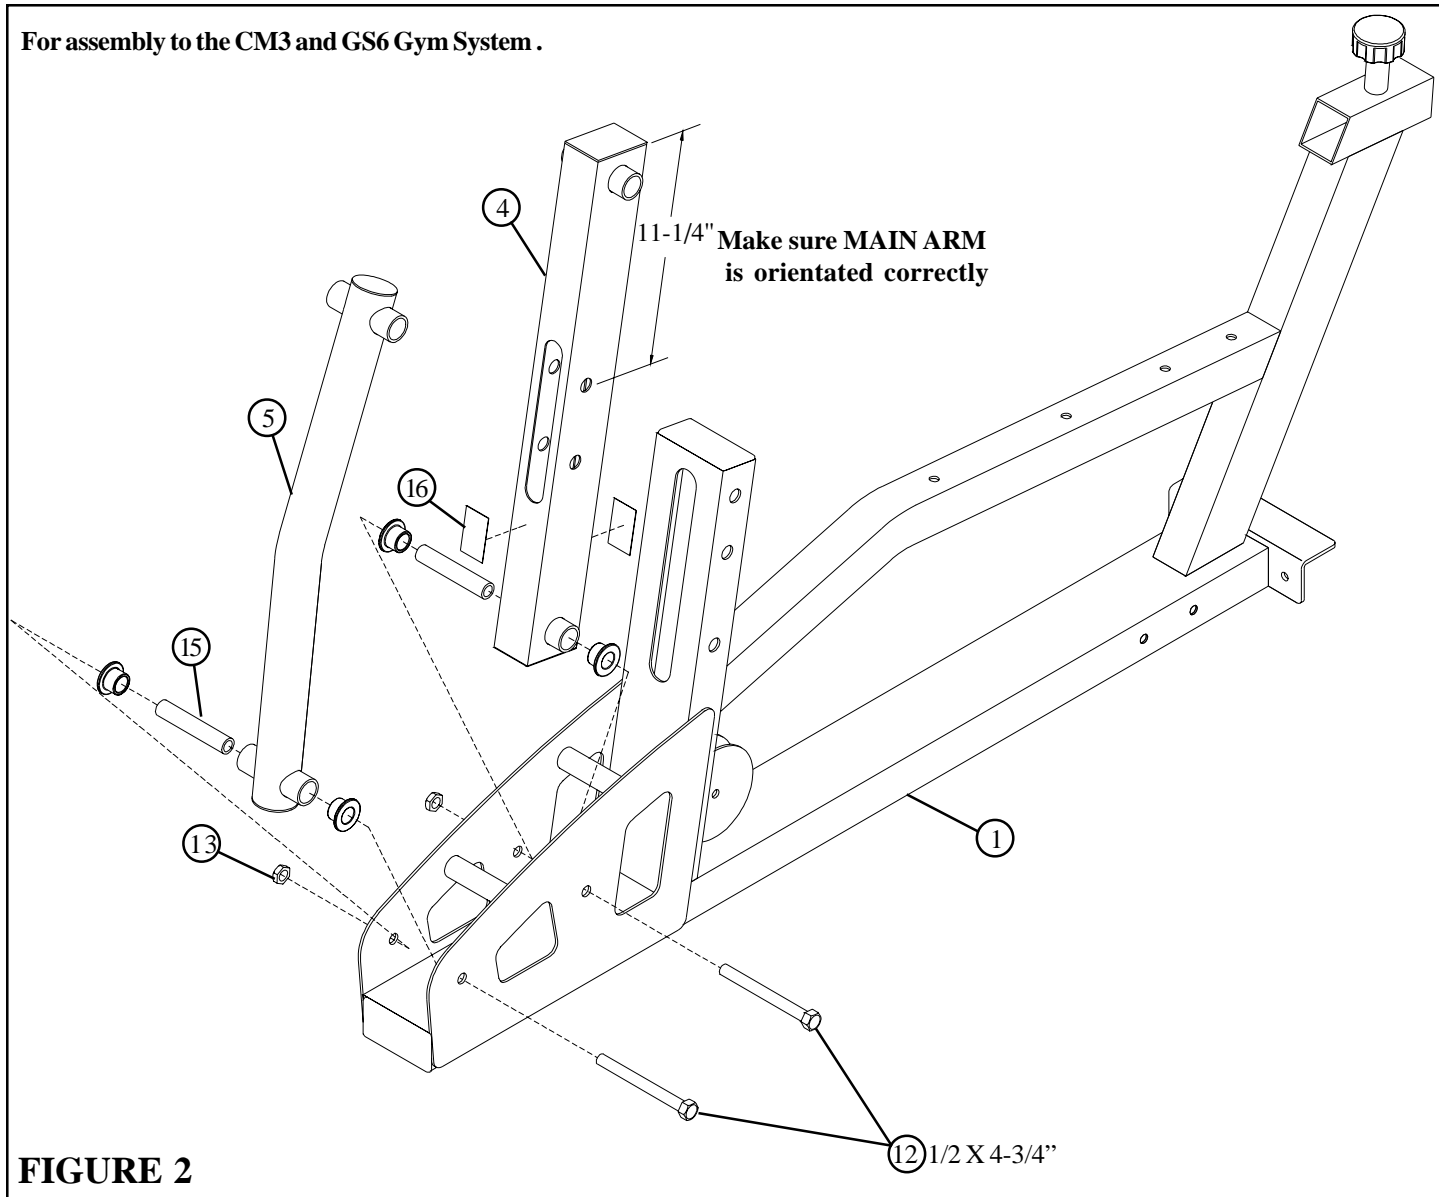

FIGURE 2
- **SECURELY** assemble the **SECOND ARM (5)** to the **FRAME (1)** using one **1/2 X 4-3/4" BOLT (12)**, one **3/4 X 4" SHAFT (15)** and one **1/2" LOCK NUT (13)**. See **FIGURE 2**.
- **SECURELY** assemble the **MAIN ARM (4)** to the **FRAME (1)** using one **1/2 X 4-3/4" BOLT (12)**, one **3/4 X 4" SHAFT (15)** and one **1/2" LOCK NUT (13)**. See **FIGURE 2**. (**NOTE: Make sure MAIN ARM is orientated correctly, top hole should be 11-1/4" from the top of arm as shown in FIGURE 2.**)
- **SECURELY** assemble two **1-1/2 X 2 BUMPERS (16)** to each side of the **MAIN ARM (4)** where the **MAIN ARM (4)** contacts the **FRAME (1)** See **FIGURE 2**.